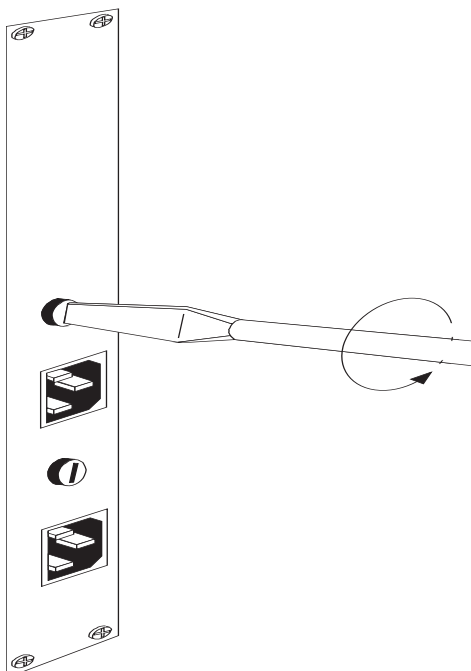

Figure 2-6 Replacing Fuses - removing the cartridge
- 1 Using a suitably sized screwdriver, unscrew the officeholder cartridge from the power inlet panel (refer to Figure 2-6). Slide the cartridge out of its position.